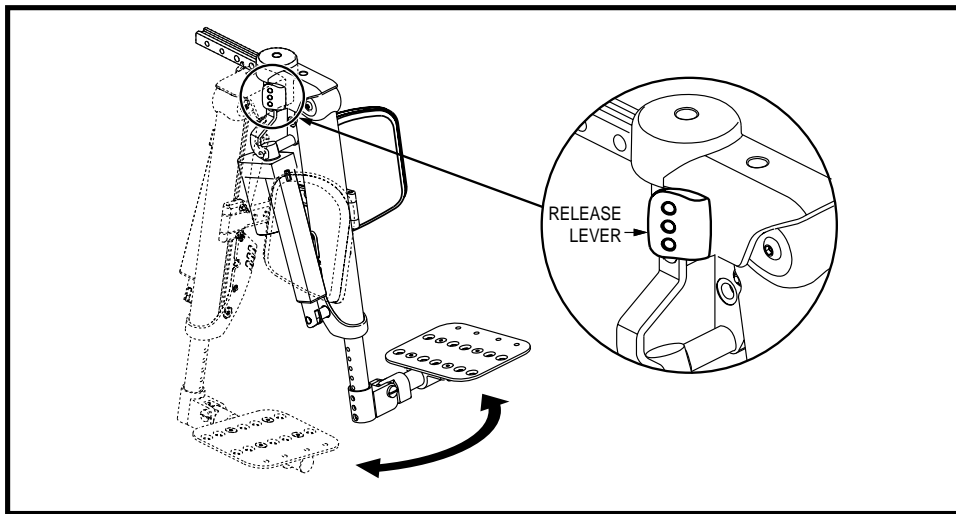

Figure 12. The Swing-away Power Articulating Leg Rests Option
1. Push in the release lever. See figure 12.